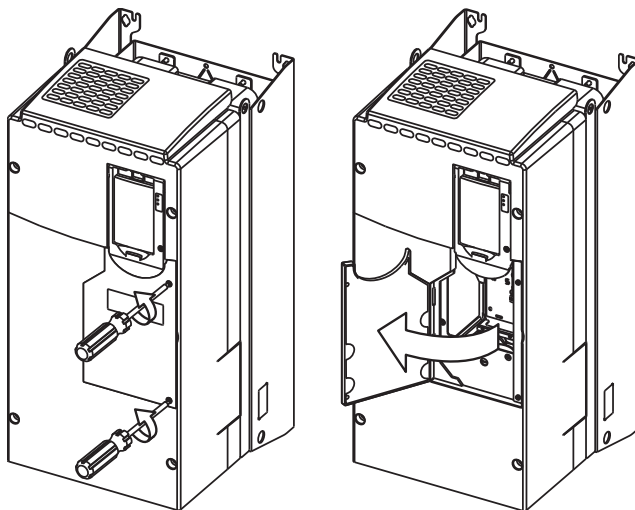

Fig. 16 — Open Access Door
1. Using recommended screwdriver = 6.4 mm (0.25 in.) flat or T20 star, open access door. See Fig. 16.
1. Disconnect power to the drive. Before removing the enclosure, open the access door on the front of the drive. See Fig. 16.